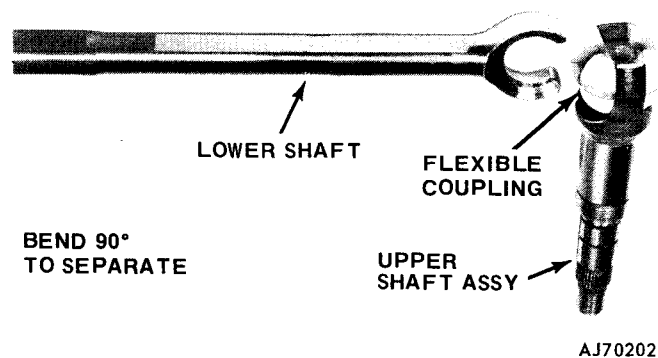

Fig. 11-41 Flexible Joint
(35) Disconnect steering shaft at intermediate shaft. Remove steering shaft from top of column. Shaft is disassembled by folding it 90° (fig. 11-41).
- (36) Remove ignition switch.
- (37) Remove neutral safety and backup switch.